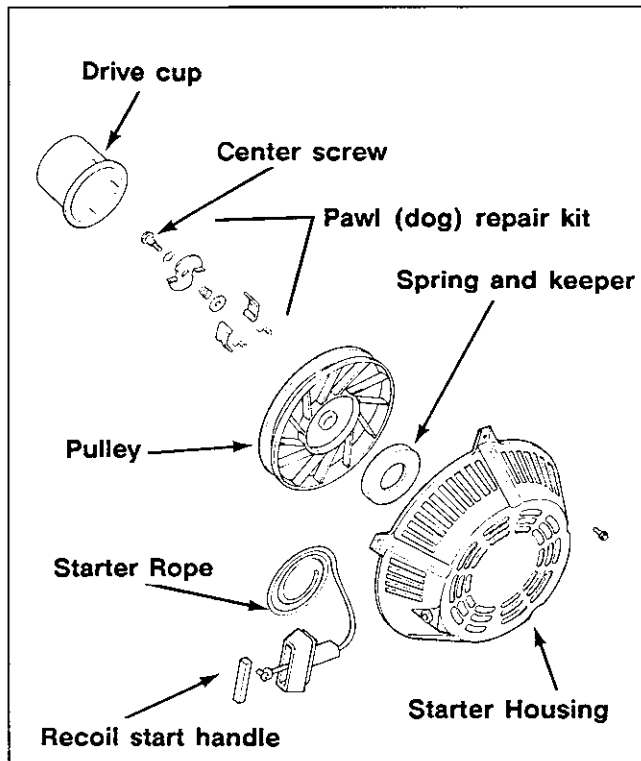

Figure 7-1. Retractable Starter – Exploded View.
- Replace all worn or damaged components. Use only genuine Kohler replacement parts as specified in the Parts Manual. All components shown in Figure 7-1. are available as service parts. Do not use nonstandard parts.